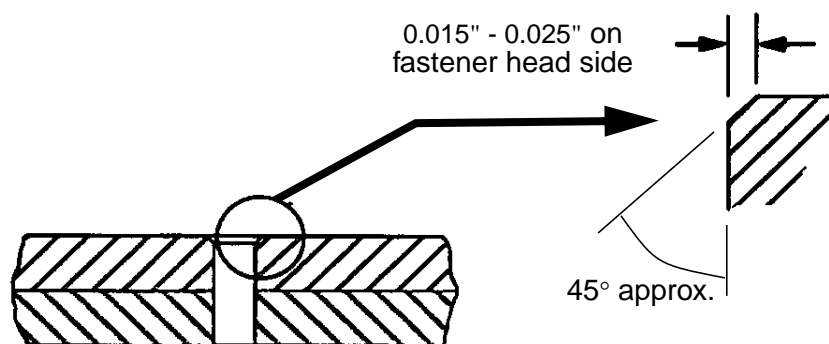

Figure 2 - Edge Relief (Edge Break) for Protruding Head Fasteners
- Step 7. For protruding head fasteners, manually break the edge of the hole on which the fastener head will seat as shown in Figure 2 according to PPS 27.05.